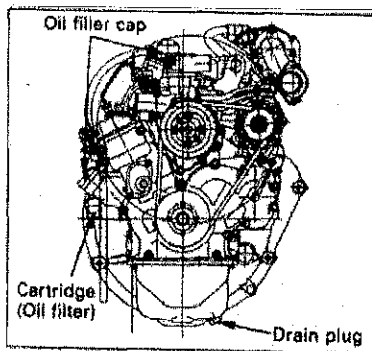

Fig 14 Oil filter and drain plug
- (2) Remove the oil pan drain plug and drain the engine oil completely (Fig 14).